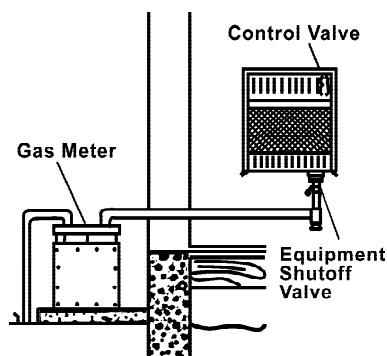

Figure 15 -Checking Gas Joints
3. Check all joints from gas meter to equipment shutoff valve (see Figure 15). Apply mixture of liquid soap and water to gas joints. Bubbles forming show a leak.
4. Check all joints from equipment shutoff valve to control valve (see Figure 15). Apply mixture of liquid soap and water to gas joints. Bubbles forming show a leak.